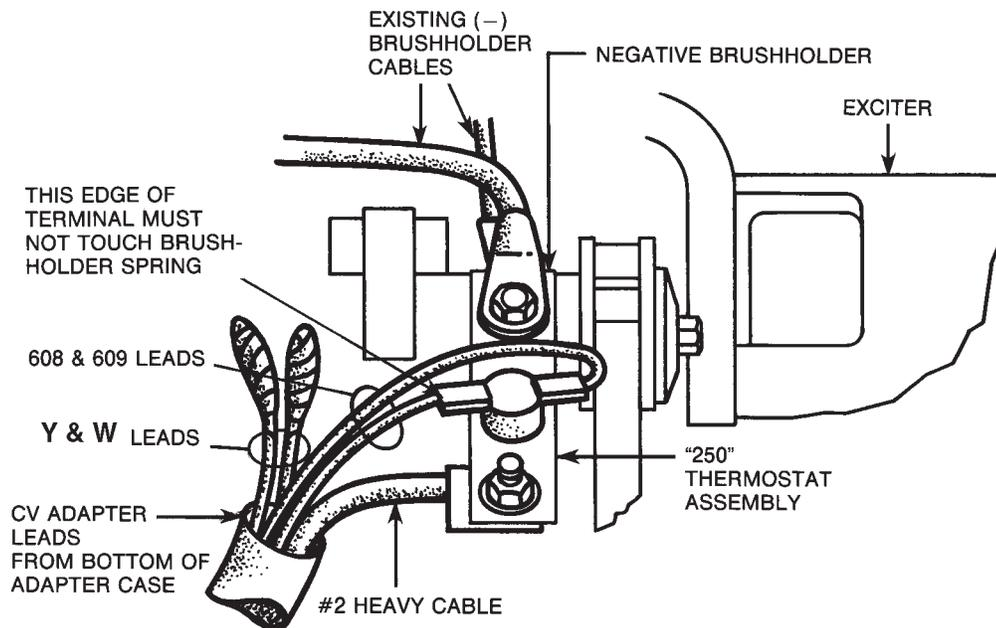

**FIGURE 10 – SA-250 with Roof Assembly Removed.**
4. Unbolt existing brown field lead from black exciter leads in the lead bundle and bolt it to CV Adapter lead 509 using # 10 x 1/4 bolt and nut provided. Tape up connection and unused lead terminal on lead 509 (see Figure 10).
5. Connect CV Adapter lead 610 to black exciter lead bolted connection shown in Figure 10 and insulate the connection with tape. Tape unused lead terminal on lead 610.
**NOTE:** FOR STEPS 9 THROUGH 11, REFER TO FIGURES 10 AND 11.
9. The negative generator brushholder, exposed when bracket cover (see Figure 10) is removed, is at the 11 o'clock position when the commutator is viewed from the control panel end of welder. Remove the 5/16 bolt which connects the two existing cables to the negative brushholder. Locate the thermostat assembly marked “250” and reconnect the two cables to the negative brushholder with *one end of the thermostat assembly bolted between the cable lugs and the brushholder.*